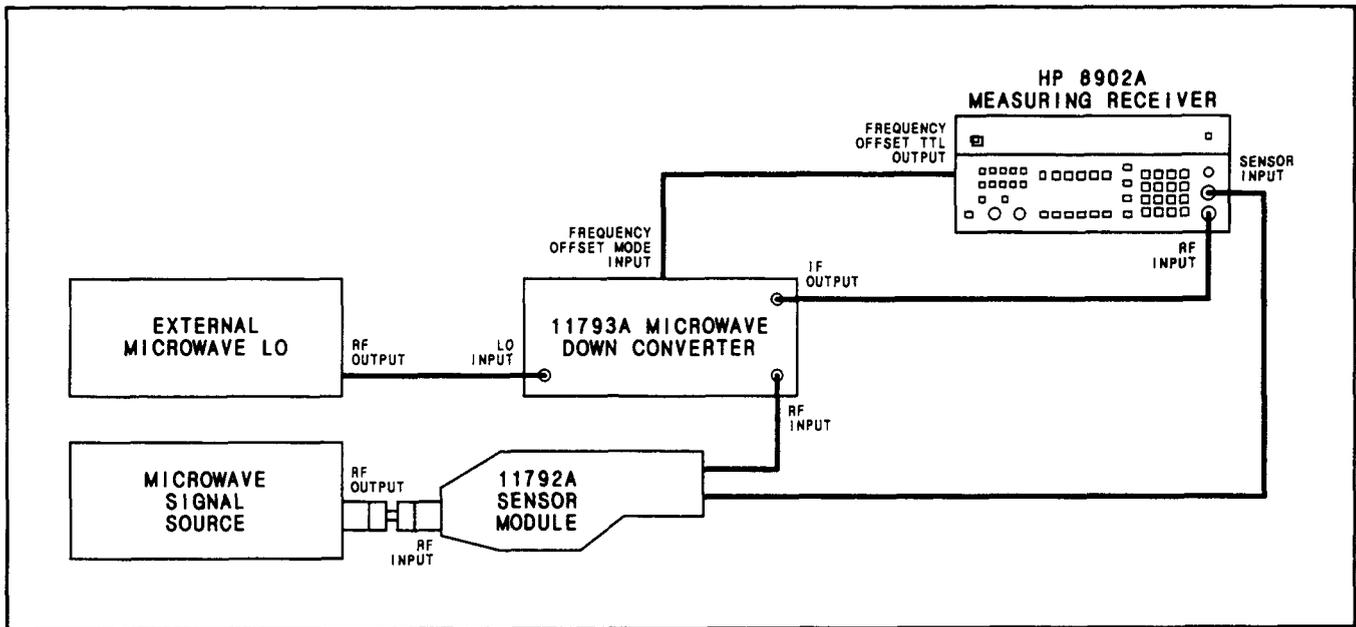

Figure 3. Microwave Converter Interconnections and Typical Test Setup
To operate the Microwave Converter, plug in the power cord and connect the signal and control cables as indicated in Figure 3, *Microwave Converter Interconnections and Test Set-up*. Refer to Table 1, *LO Requirements*, for LO power requirements.
1. Connect the equipment as shown in Figure 3. Set the two microwave sources to CW. Set the microwave signal source to 0 dBm.